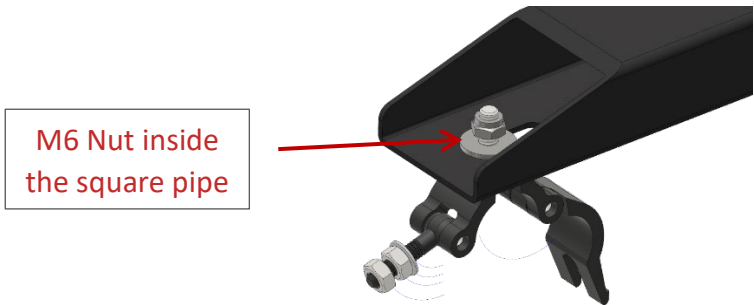

Figure 32 Adjusting the 25 mm clamp of the ECO-ABD-x
Step 3: Securely tighten the two M6 nuts which fix the two clamp to the rectangular pipe (see Figure 32)